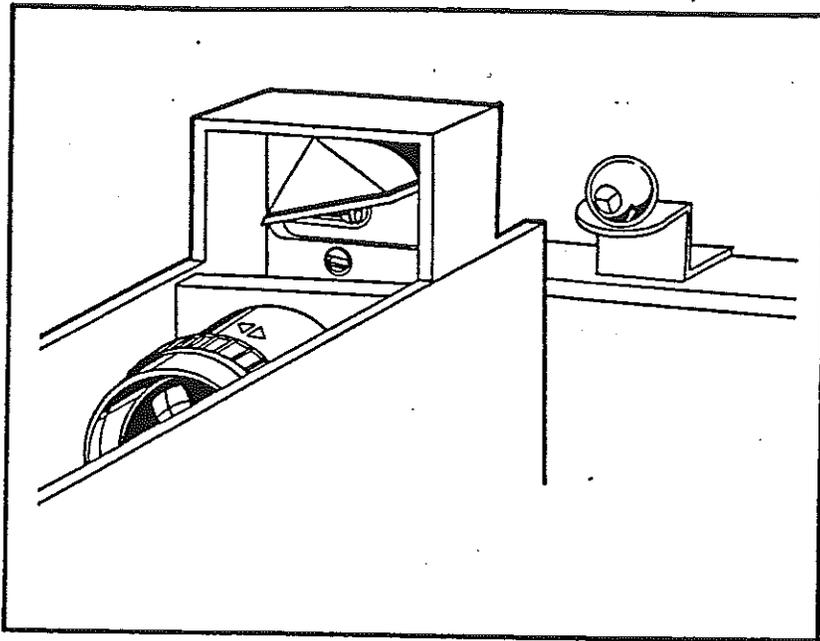

Fig. 12
- (b) Direct the camera towards a spherical reflecting surface (Fig. 12); an artificial eye (prosthesis) serves perfectly, or alternatively, a ball bearing of 1.5 - 2 cm diameter may be used.